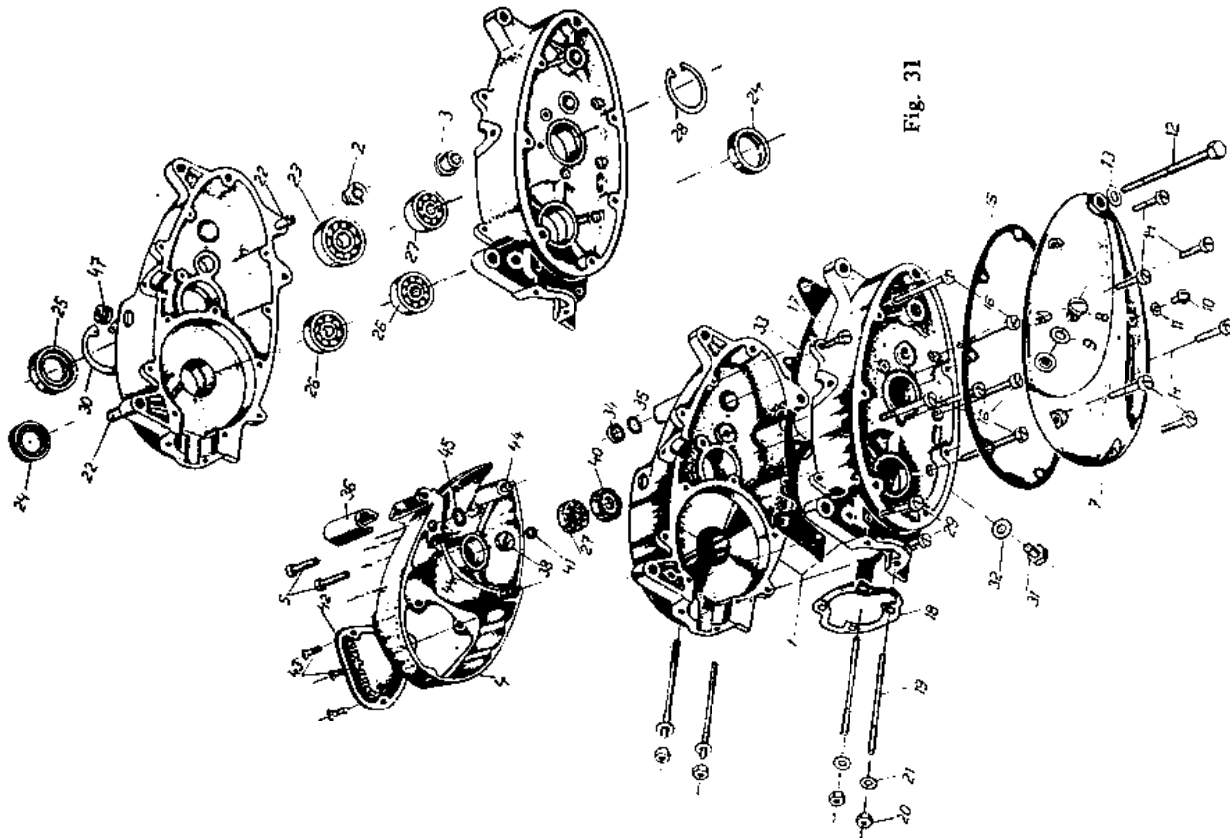

Fig. 31
35. Change of sealing rings (Gufero) (fig. 31)
38. Dismantling the engine box (fig. 31)
43. Change of the bushes (fig. 31)
48. Assembly of the box halves (fig. 31)